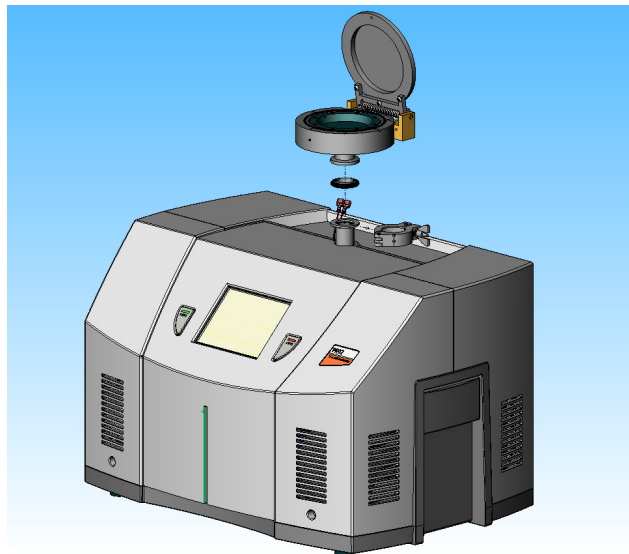

Figure 10: Flapper Box Assembly, NW25 Installation
- P/N VSFLDFBNW25: Utilizing the NW-25 Centering Ring and Quick Clamp ("Figure 10: Flapper Box Assembly, NW25 Installation").